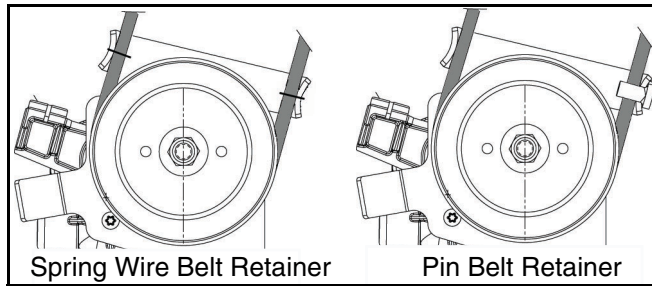

FIGURE 9
12. See Figure 9. Ensure the belt is correctly positioned around the transmission pulley and routed to the inside of the transmission bracket belt guides and under the pin retainer (if so equipped).